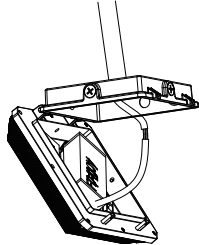

Figure 1-5
5. Connect the wires properly. If the fixture is equipped with sensor, adjust the sensor settings as per your demand. Take relevant waterproof measures after finished wiring ; Figure 1-5